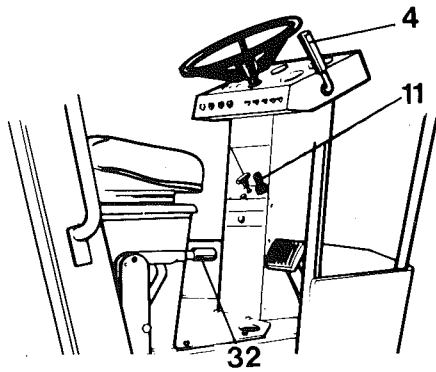

Fig. 7 Operator's platform
(Keep maximum speed when the forward/reverse lever, 4 in Fig. 7, is at full throttle.)
- 4 Release the handbrake (32 in Fig. 7), by moving the lever forward and down. The handbrake warning lamp should then go out.
- 5 First check that the road is clear both in front of and behind the roller. Move the forward/reverse lever (4 in Fig. 7), gently forward or backwards - depending on the desired direction of travel.